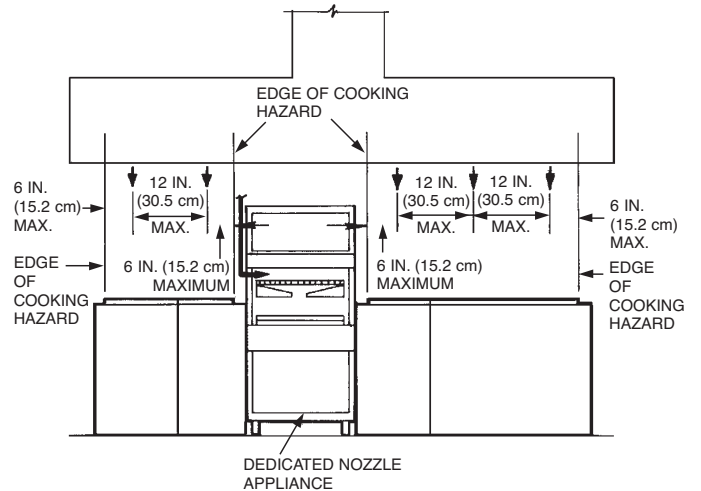

FIGURE 91g
3. When an appliance requires dedicated protection with a protected area intended for overlapping appliance nozzle protection, the group protection option will be required for appliances on either side of the appliances using dedicated protection. Group protection using overlapping appliance nozzles must begin with the protected appliance(s) adjacent to the dedicated appliance protected. An overlapping appliance nozzle(s) must be positioned within 6 in. (15.2 cm) of the edge(s) of the appliance hazard surface area(s) adjacent to the dedicated nozzle protection. See Figure 91g.